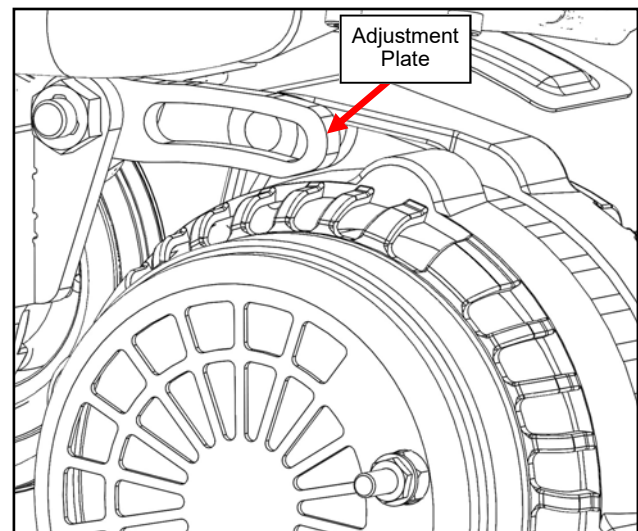

Fig. 3.7 (Install Alternator, Upper Mount/Adj. Plate)
3.7 Make sure to rotate the adjustment bracket up to clear alternator as shown on figure 3.7.